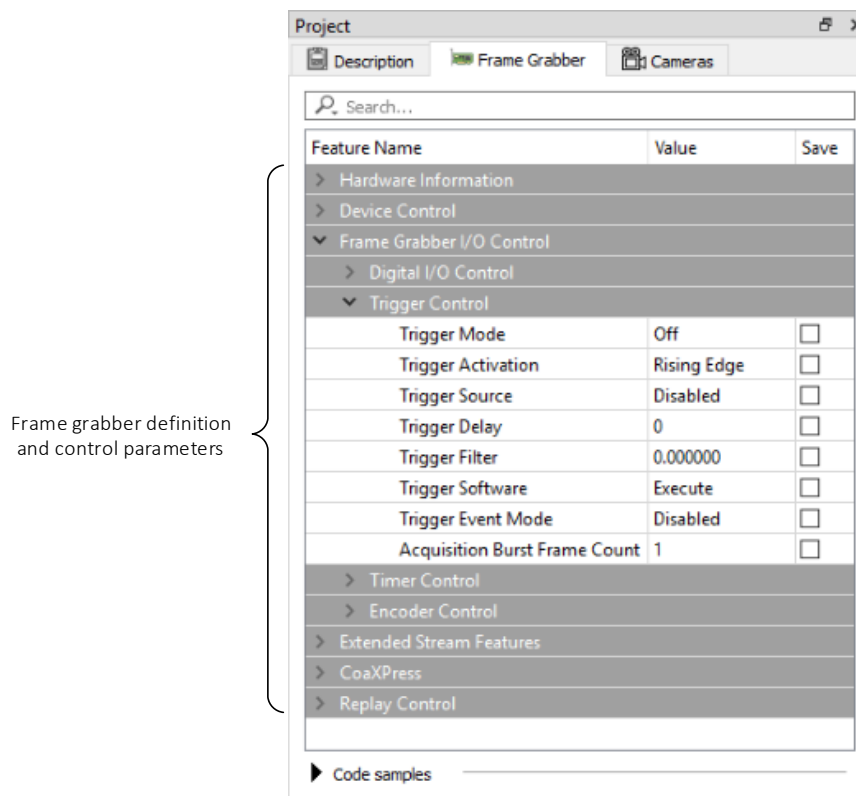

Figure 5 – Frame Grabber navigator tab
3. A Frame Grabber tab describes Frame Grabber-related information and configurations, e.g. I/O control and hardware information, controlled using GenCam interface. The Frame Grabber tab is shown in Figure 5.